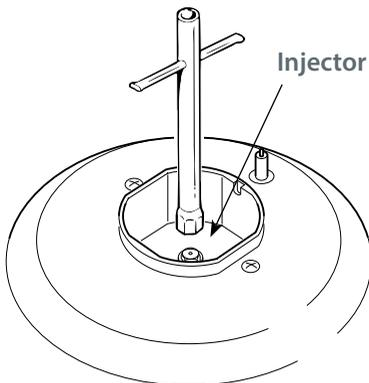

Fig. 7 Auxiliary and semi-rapid burners
- Using a spanner, remove the injector (Figs. 7 and 8) and replace it with one according to the gas type (see 'Table for the choice of injectors').